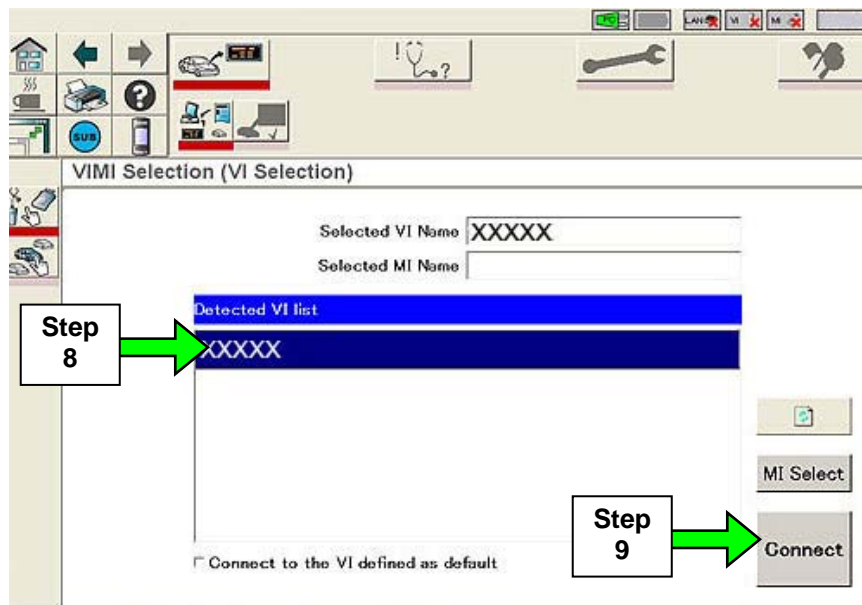

Figure 1
8. Select the detected VI from the list. (See Figure 1.)